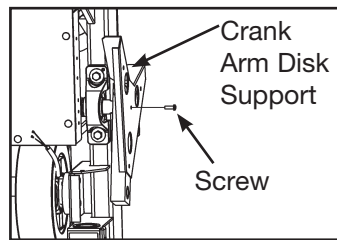

Figure 6
- B.** Using a Phillips screwdriver, remove the screw securing each crank arm disk support. See Figure 6.
- A. Using a Phillips head screwdriver, attach the screw securing each crank arm disk support in place. See Figure 6.